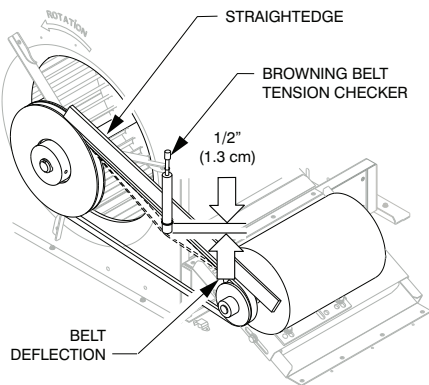

Fig. 13 - Adjusting V-belt Tension
24. Adjust the V-belt tension using adjustment tool. See Fig. 13.